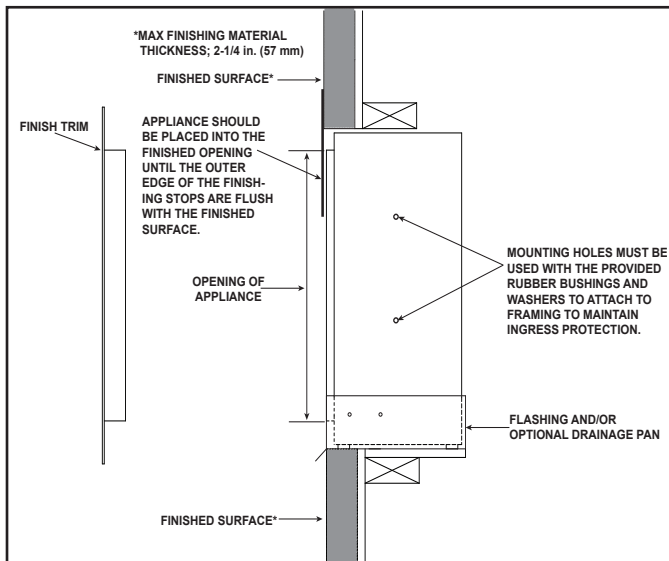

Figure 4.9 Finishing Around a Recessed Appliance
3. For recessed installations using the Front Trim, the appliance should be pushed into the finished opening until the outer edge of the finishing stops are flush with the finished surface. See Figure 4.9.